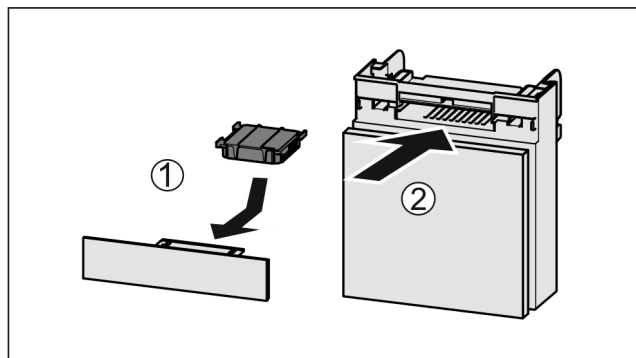

Fig. 157
- Insert the carbon filter as shown in the diagram Fig. 157 (1).
- Push the compartment in Fig. 157 (2).